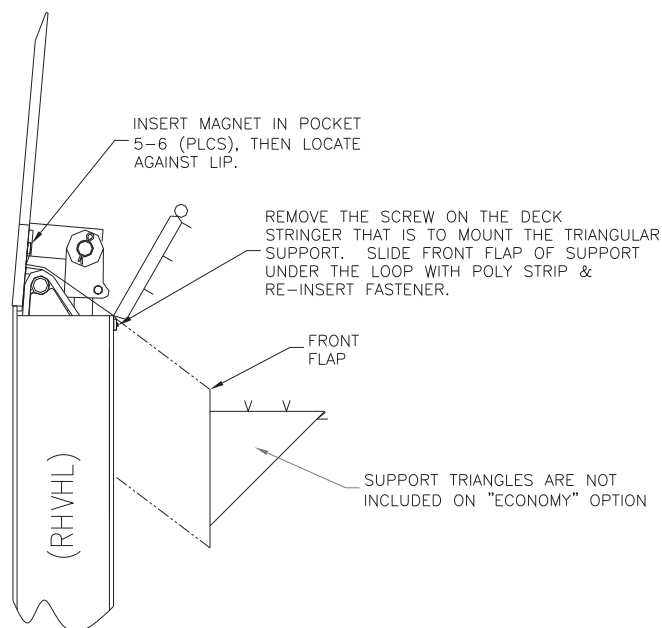

FIGURE 4
- 8) Install magnets in the top curtain top loop to hold it in place during operation. Insert magnets by making a slice in the backside of the loop, through only (1) layer of fabric. Slice at each magnet location. 1 to 2 magnets will be used to hold the top curtain in place in the loop on the lip extending cylinder side of the leveler. Slide the magnets into the pocket facing towards the lip. Locate the magnets either on the backside of the lip or on the lip cylinder support brackets. Make sure one magnet gets located at the outside, the other a couple of inches away from the cylinder. Tuck curtain under cylinder ram. (See Figure 4.) Install the remaining magnets in the loop on the other side of the extending cylinder. Again, one at the outside, one next to the cylinder, and the others spaced evenly between. Tuck curtain under other side of cylinder ram.
- 9) Once the top curtain is mounted, rotate curtain up and over, facing the back side of the leveler lip. (See Figure 4.)